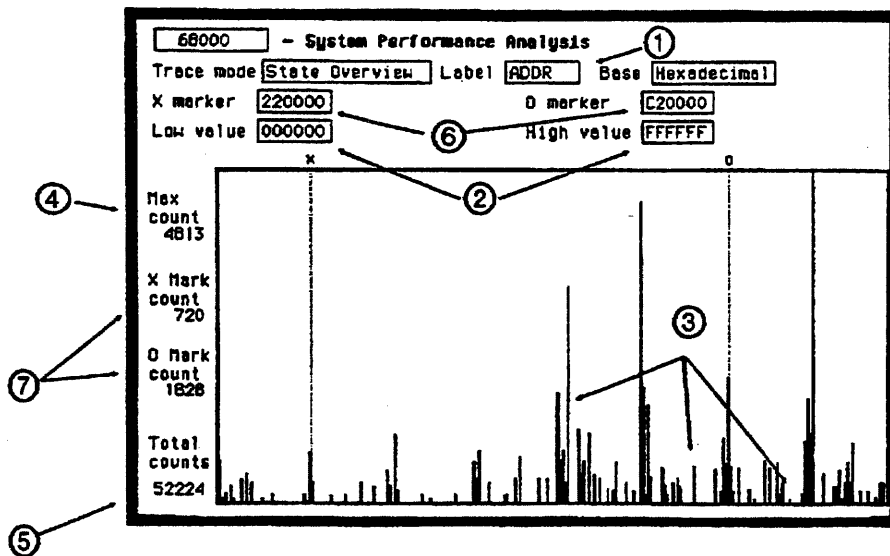

Figure 5-1a. HP 1650A State Overview Display.
To select a label to monitor, select the "Label" field in the State Overview display (item 1 in figure 5-1a and 5-1b). In the pop-up, you will see a list of all the labels defined in the State Format Specification. From this list, choose the label you want to monitor.
The range of the X-axis is determined by the "Low value" and "High value" fields (item 2 in figure 5-1a and 5-1b). To change the X-axis range, select the "Low value" and/or "High value" fields and enter new limits. The range you have specified will then be divided among the 256 available buckets along the X-axis (unless the range is less than 256 or the histogram frame is truncated due to bucket range round-off).
Press RUN to start the State Overview acquisition. In the HP 16510A/16510B, you should select Repetitive Run mode. As the data is sampled and sorted, the buckets along the X-axis will accumulate (item 3 in figure 5-1a and 5-1b). The relative size of the vertical bars show the distribution of activity on the label you chose. The analyzer will continue to sample, sort the data, and update the display until you press STOP or you change a display variable.
The "Max count" (item 4 in figure 5-1a and 5-1b) represents both the current upper limit of the Y-axis and the bucket with the greatest number of data samples. Max count and the limit of the Y-axis will increase as the buckets fill with samples.
Read "Total counts" (item 5 in figure 5-1a and 5-1b) to find the total number of samples taken over the specified range of the label. This is not affected by the Low and High values.
To find the number of data samples in any bucket, select the "X marker" or "O marker" field (item 6 in figure 5-1a and 5-1b). Turn the knob to move the marker to the area of interest. Read the "X Mark count" or "O Mark count" values to determine the number of samples in the current bucket (item 7 in figure 5-1a and 5-1b).